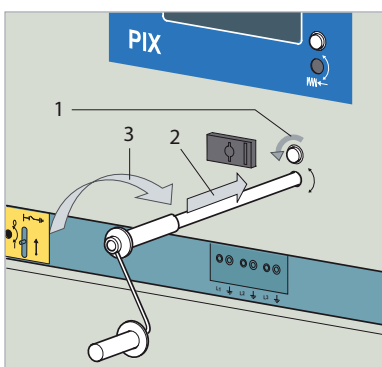
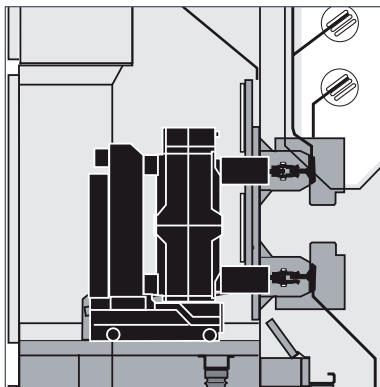

Fig. 10.23
Fig. 10.24
- Open cover (Fig. 10.23, 1) and insert crank (2).
- Turn crank clockwise (3) until the truck has been racked in. Remove crank.
- Check position of truck (Fig. 10.24) through the inspection glass.